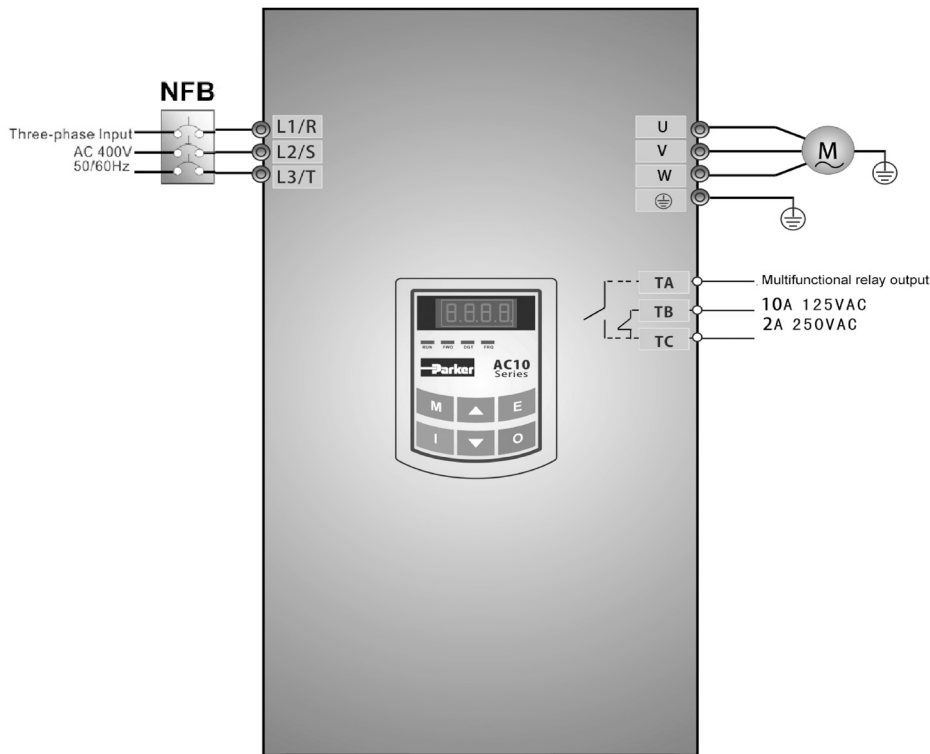

Figure 8-1 Wiring Diagram 1
- i. Connect the wires in accordance with Figure 8-1. After having checked the wiring successfully, switch on the air switch, and power on the inverter;